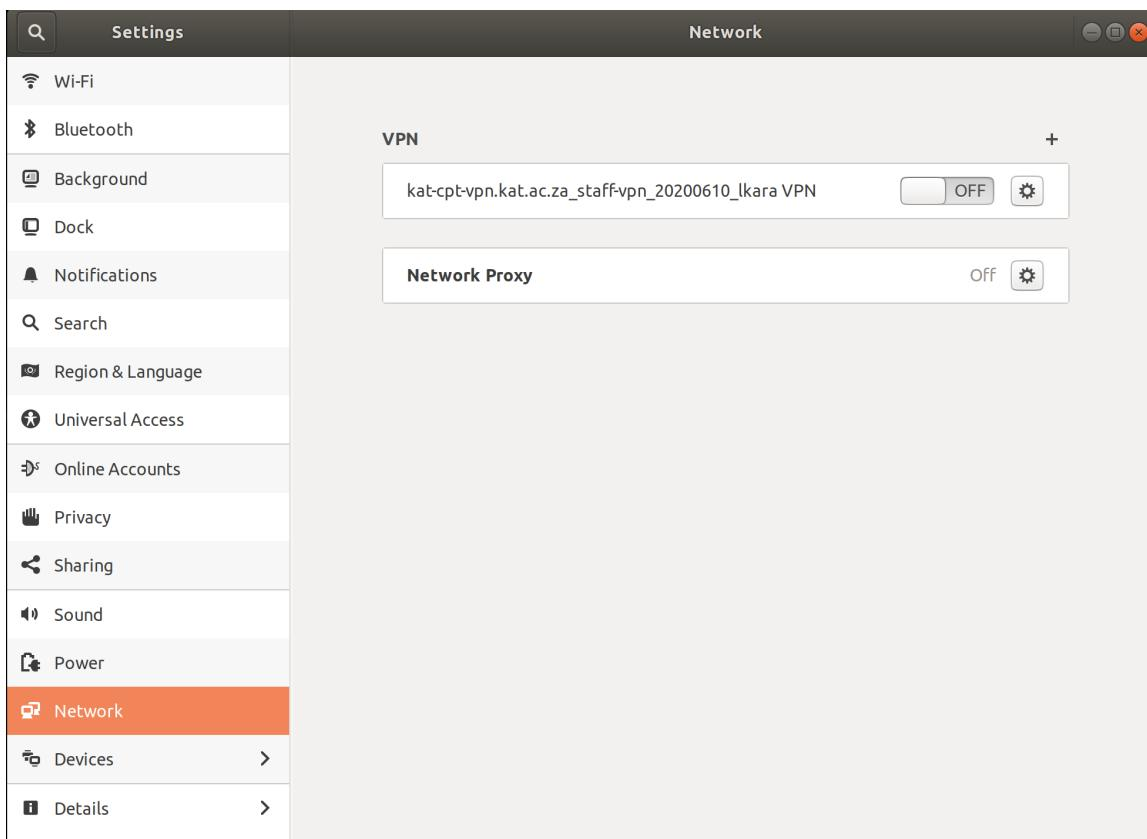

Figure B.5: Name of latest EduVPN configuration file
- You will see the name of the latest .ovpn config file installed as shown in **Figure B.5**.